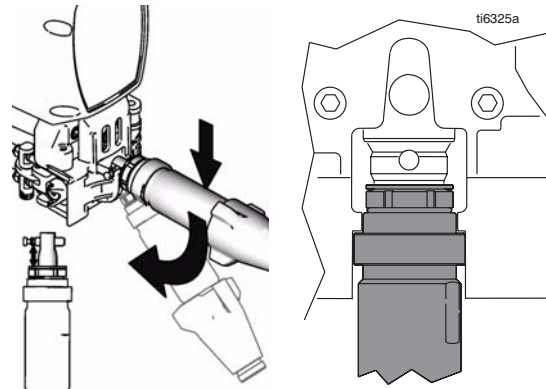

FIG. 20
- 1. FIG. 20. Adjust piston rod with pin holder to pull out piston rod. Tap piston rod on hard surface to push in piston rod.